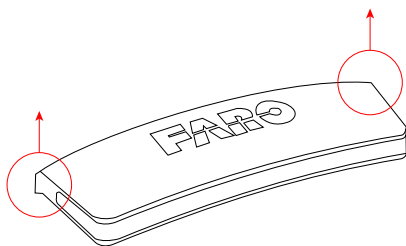

Figure 4-9 : Pull here to remove
2. Remove the status indicator by grasping it with two fingers on the corners shown in Figure 4-9 and pulling vertically.